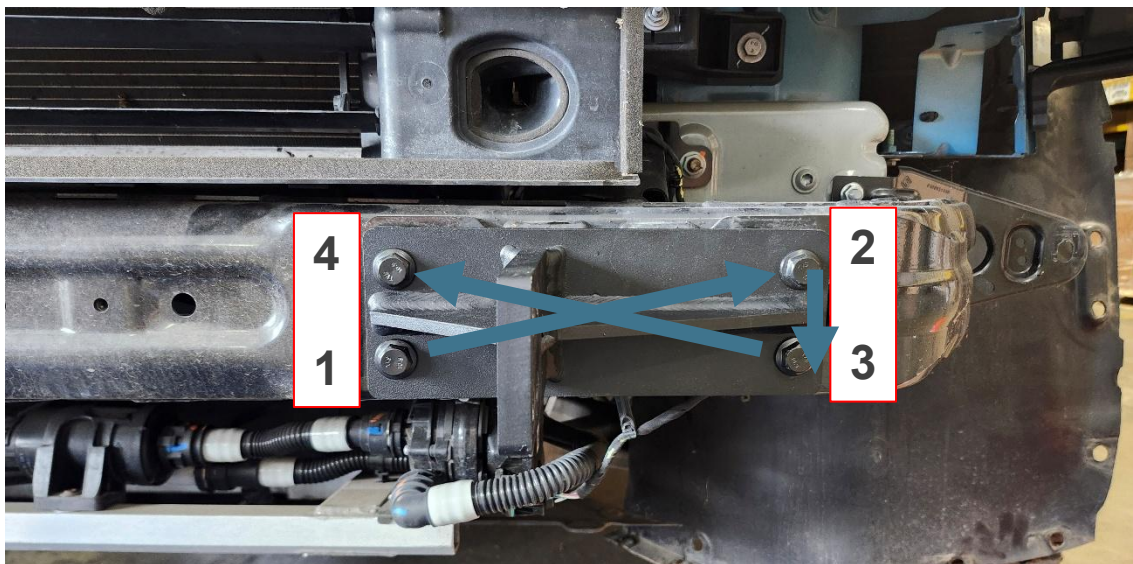

Figure 29
1. Install push bumper brackets using provided M10 hardware from 7120-1307 hardware bag. Torque bolts to 43 ft/lbs following the order above. (Figure 29; Drivers side shown, repeat for passenger side)